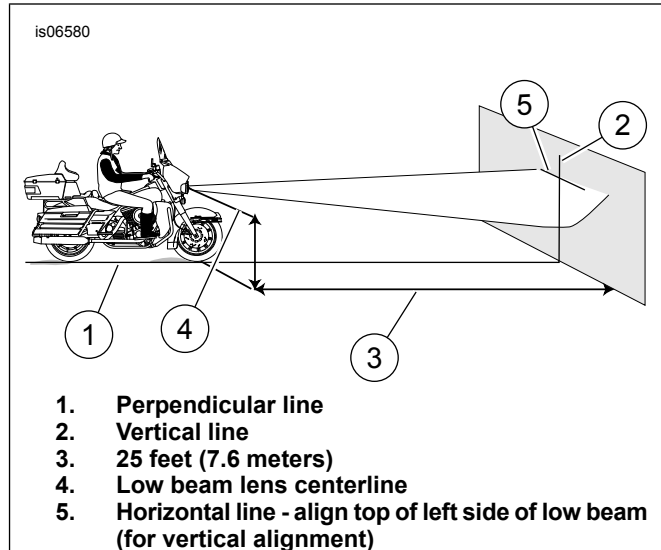

Figure 4. Checking Headlamp Alignment
6. See Figure 4. Draw a horizontal line on the wall at (5) that is the same measurement as recorded in Step 5.
7. Draw a vertical line (2) off the perpendicular line (1) so it crosses through the horizontal line drawn in the previous step.